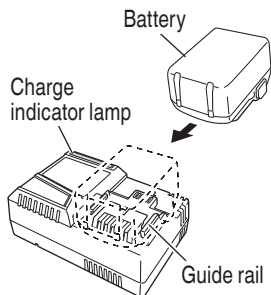

Fig. 7
2. Insert the battery to the battery charger. Firmly insert the battery into the battery charger as shown in Fig. 7.